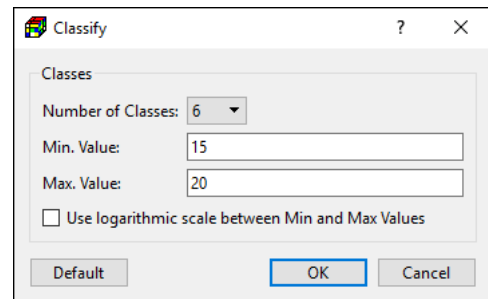

Figure 162. The Classify dialog box
- **Classify:** Click this button open the Classify dialog box (Figure 162) that is used to define the range of values and number of classes. If *Min. Value* and *Max. Value* are both positive, the option of *Use logarithmic scale between Min and Max Values* is available. Click the Default button to reset *Min. Value* and *Max. Value* to the values found in the data of the current layer.